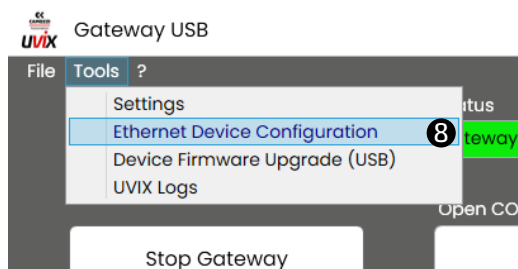

Figure 7.25: Ethernet device configuration section.
The USB Gateway also allows to connect to the DRVI using Ethernet instead USB ⑧ (see Figure 7.25).